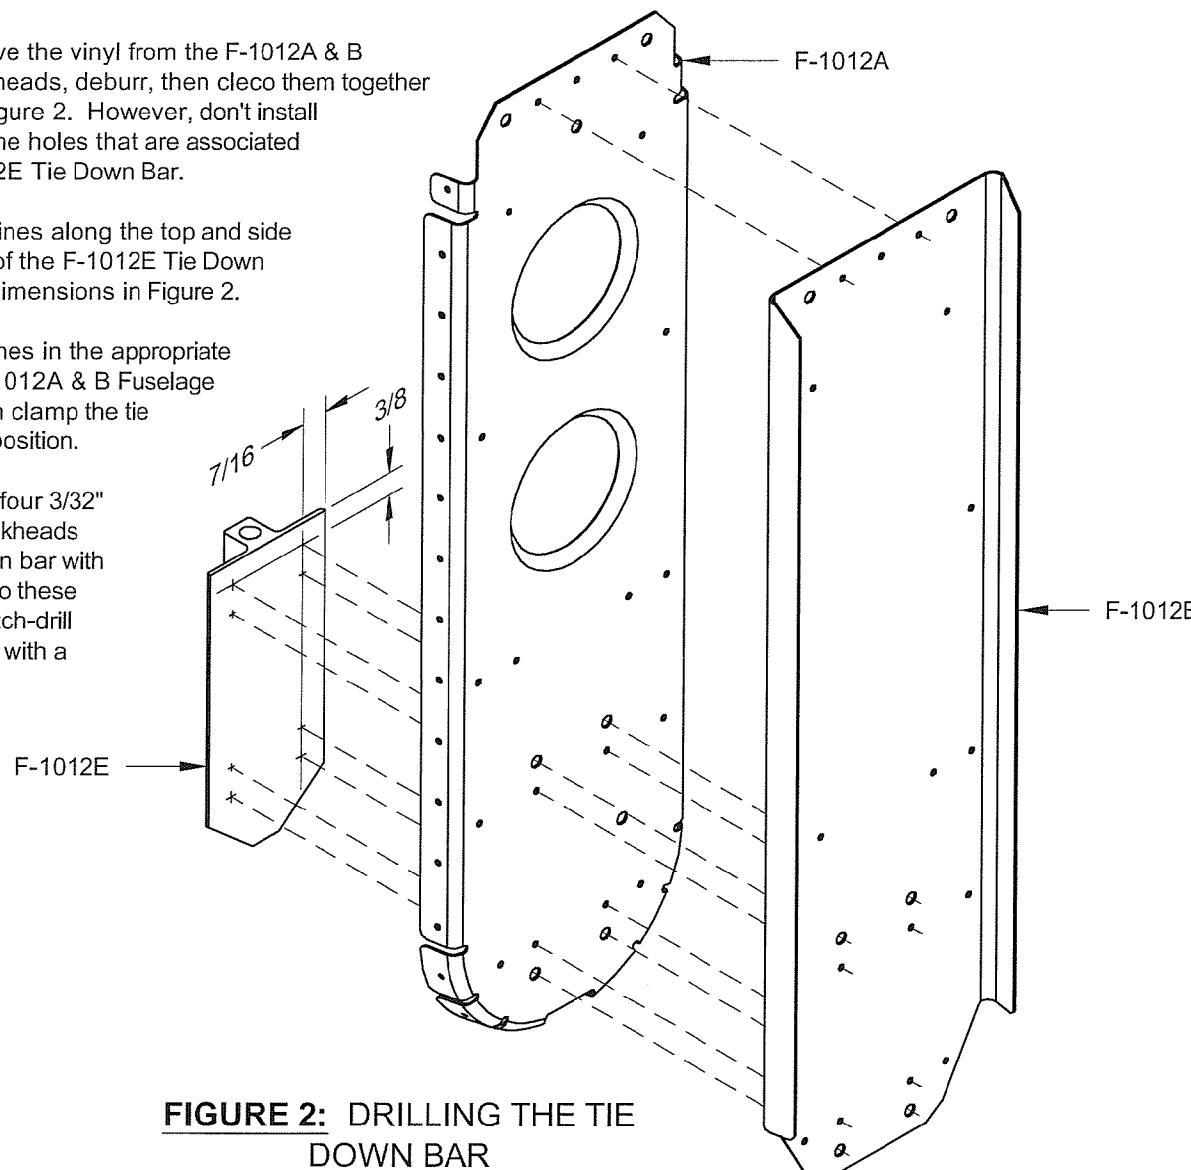

FIGURE 2: DRILLING THE TIE DOWN BAR
Step 3: Draw lines along the top and side of the aft face of the F-1012E Tie Down Bar using the dimensions in Figure 2.